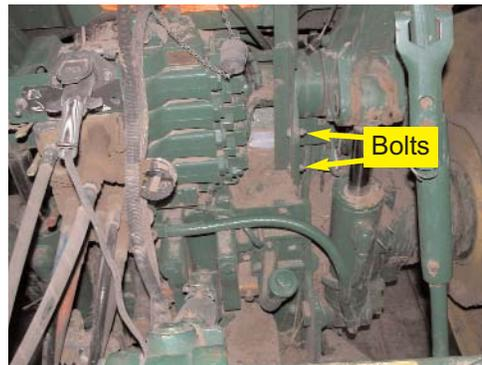

Figure 2a. Mounting location.
- a. Locate the two bolts in the casting, to the right of the SCV stack, at the rear of the tractor. (Figure 2a.)